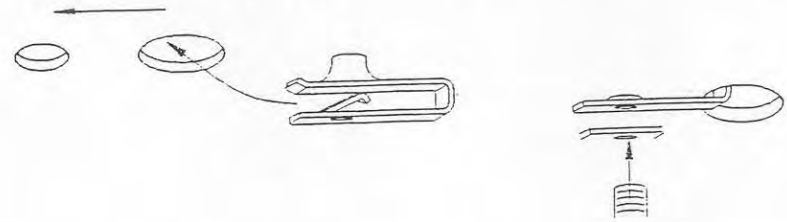

FIGURE 23-A
1. Locate the four (4) hardware clips in the package that comes with the pedestal or leg frame kit. Attach the clips to the underside of the NPS-1000 heater. (Figure 23-A)